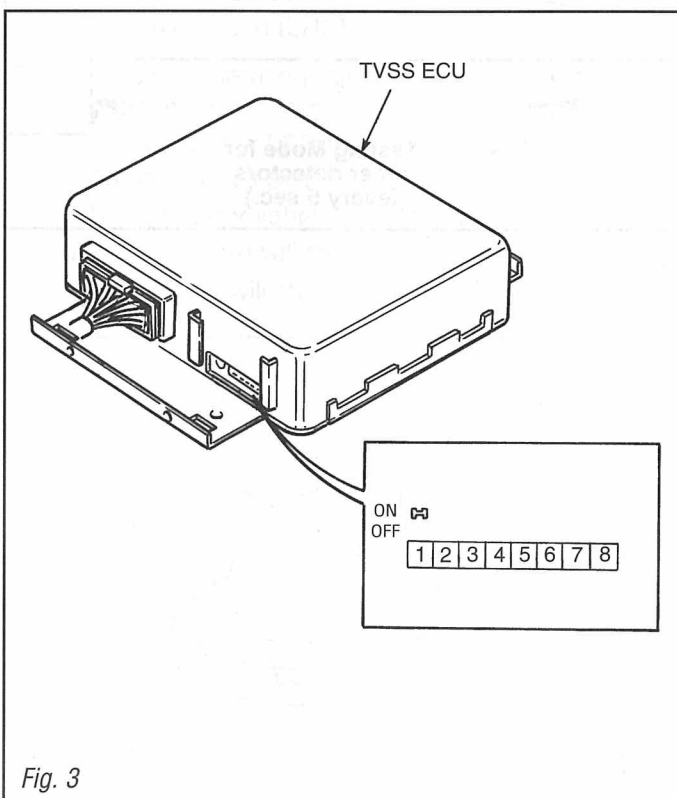

Fig. 3
- 5) Pull up the dip switch "1" of the TVSS ECU to change into the "TESTING MODE". (See figure 3).